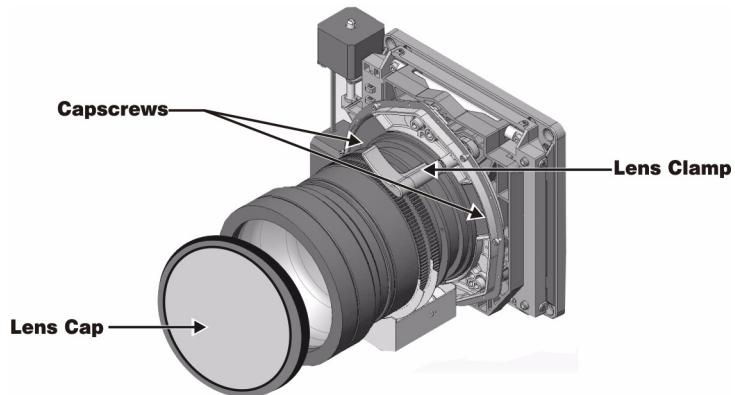

FIGURE 4-4 RELEASE LENS CLAMP
2. Install the lens cap (**Figure 4-4, 1**) and release the lens clamp by pushing it up (**Figure 4-4, 2**).
3. If necessary, remove the 2 capscrews securing the lens to the lens mount (**Figure 4-4, 3**).